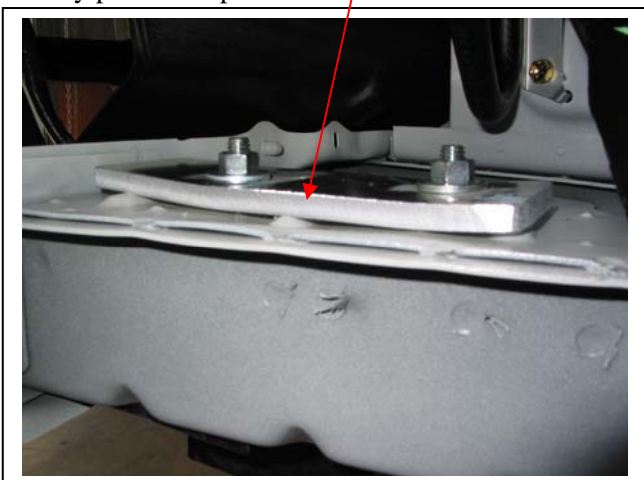

Figure 3 – Drivers side shown from inside
4. Insert 3/8 x 5 bolt (supplied) through chassis and alloy plate (supplied). Attach nuts and washers (supplied). **FINGER TIGHTEN ONLY. See figure 3.**